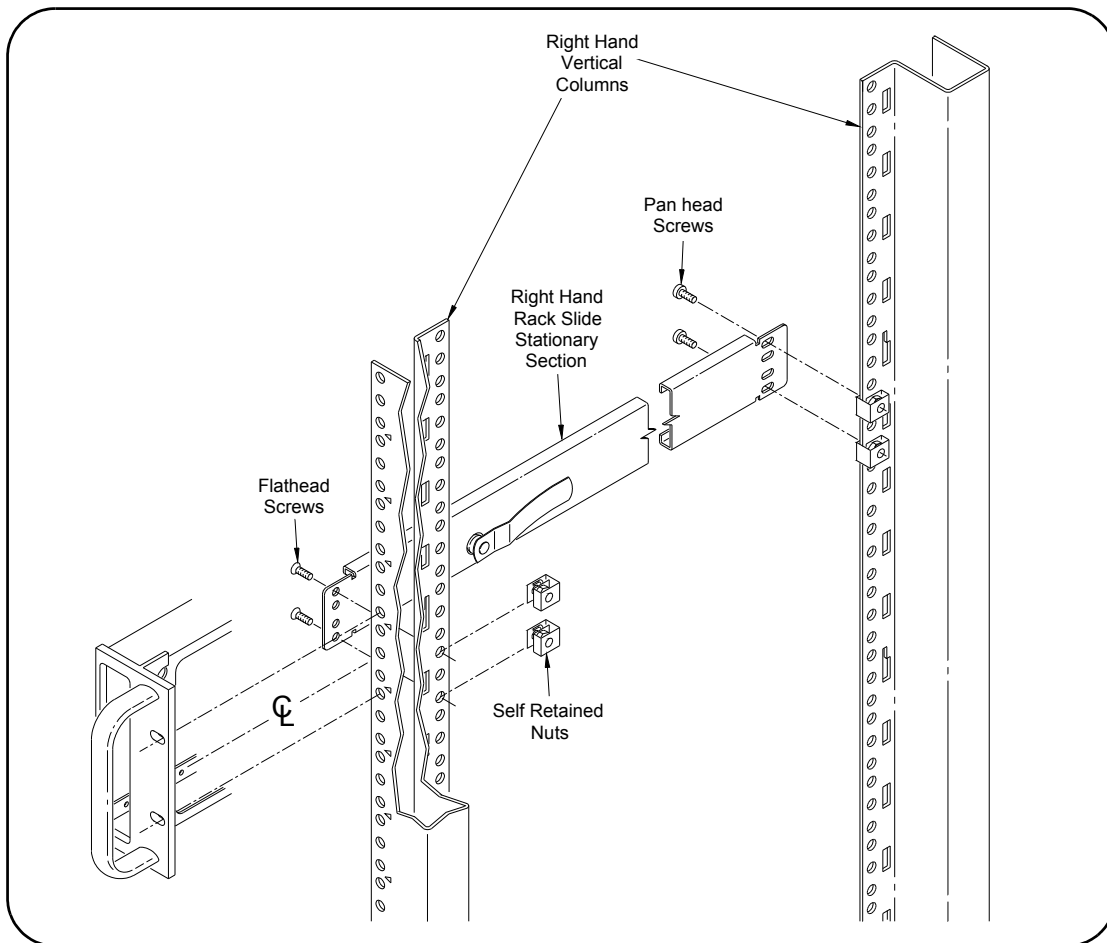

Figure 2-10. Installing Rack Slide Stationary Sections
## Install Rack Slide Stationary Sections (Figure 2-10)
- 1 Slide four 10-32 Self-Retained Nuts on the selected holes in the right hand vertical column of the cabinet. See Figure 2-10 for hole locations.